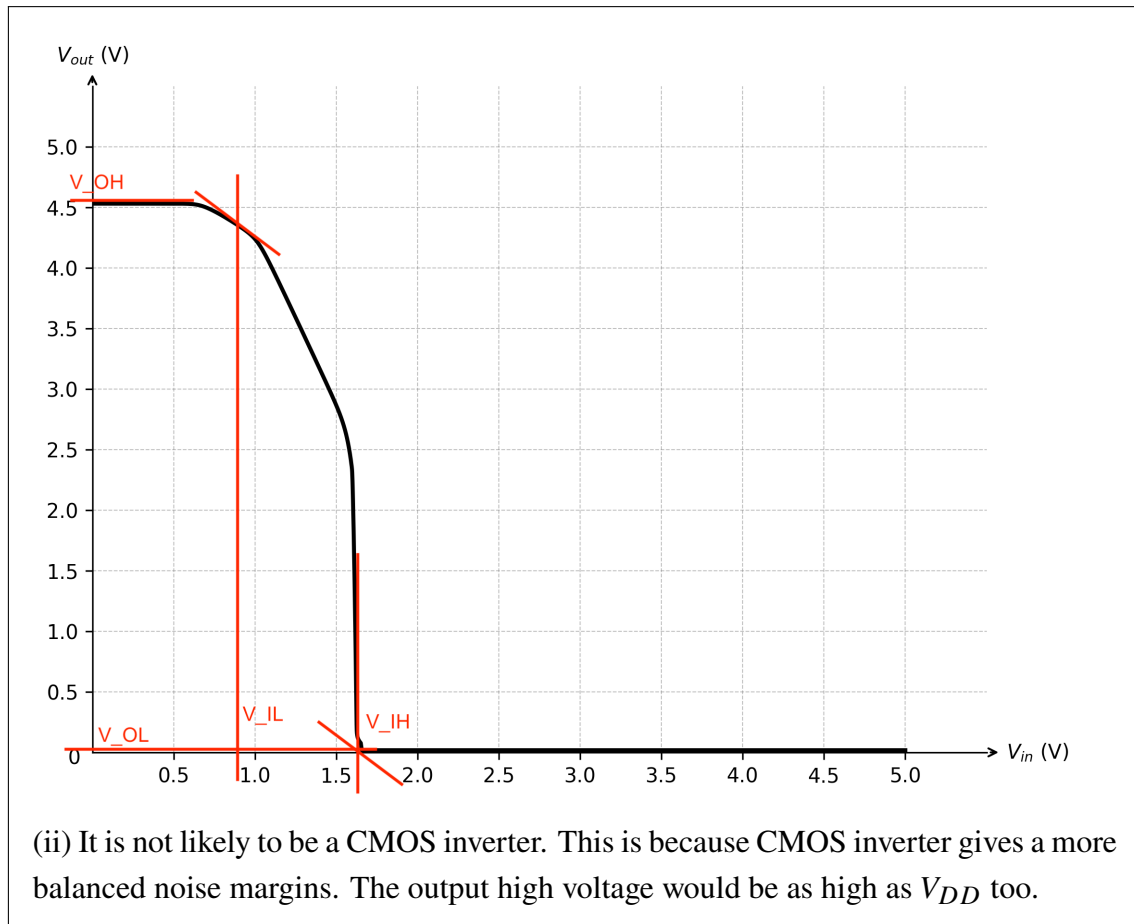

Fig. 4
- The *Current State* (Q) is an output of the Register.
- 3 (a) The voltage transfer characteristic of an inverter is shown in Fig. 4. The supply voltage V_{DD} is 5 V.
- (ii) Explain whether it is likely that the inverter characterised by Fig. 4 is implemented by the CMOS technology or not. [8%]